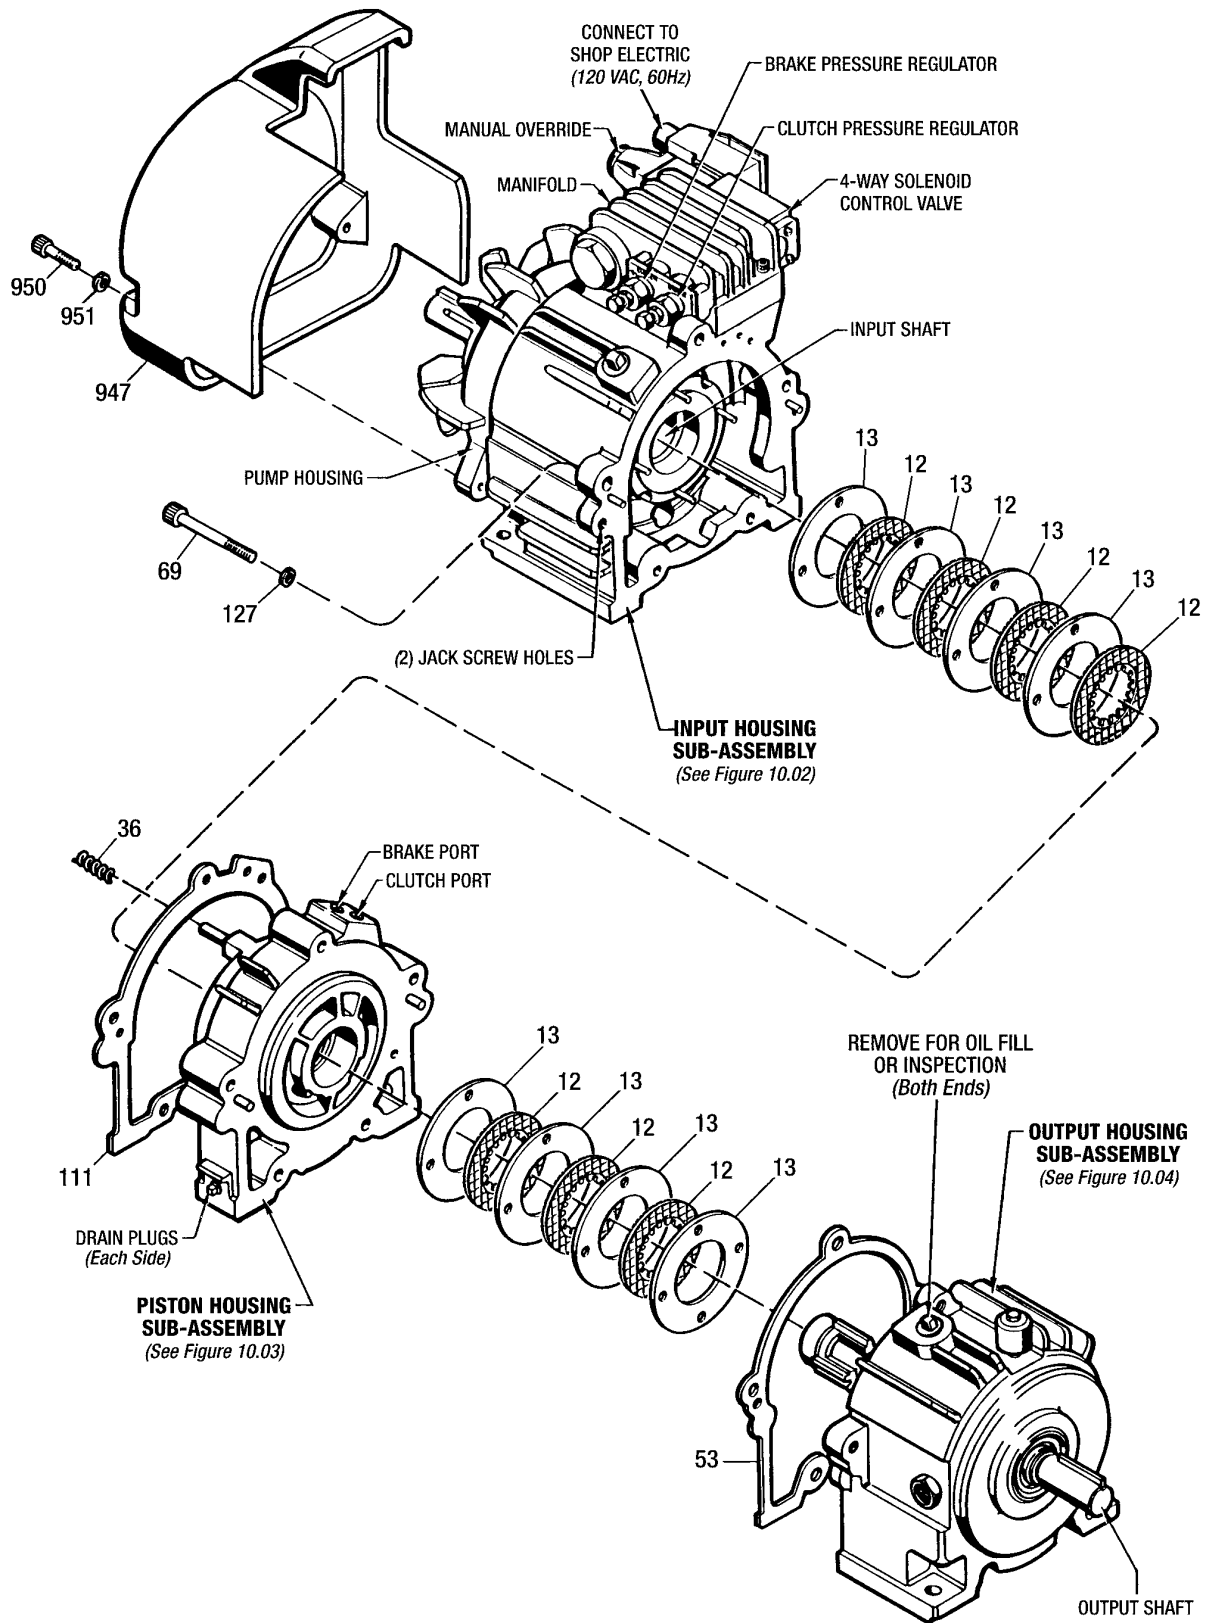

Figure 10.01 - Main Sub-Assemblies & Clutch/Brake Stacks
(See Figure 10.01)
2. Install the Brake Stack, as shown in *Figure 10.01*, onto the Output Shaft Spline aligning the (4) holes in the Drive Plates (#13) with the (4) extended pins in the Output Housing.
4. Place the Clutch Stack, as shown in *Figure 10.01*, onto the Output Shaft Spline. Make sure the (4) holes
## Main Sub-Assemblies and Clutch/Brake Stacks (Figure 10.01)